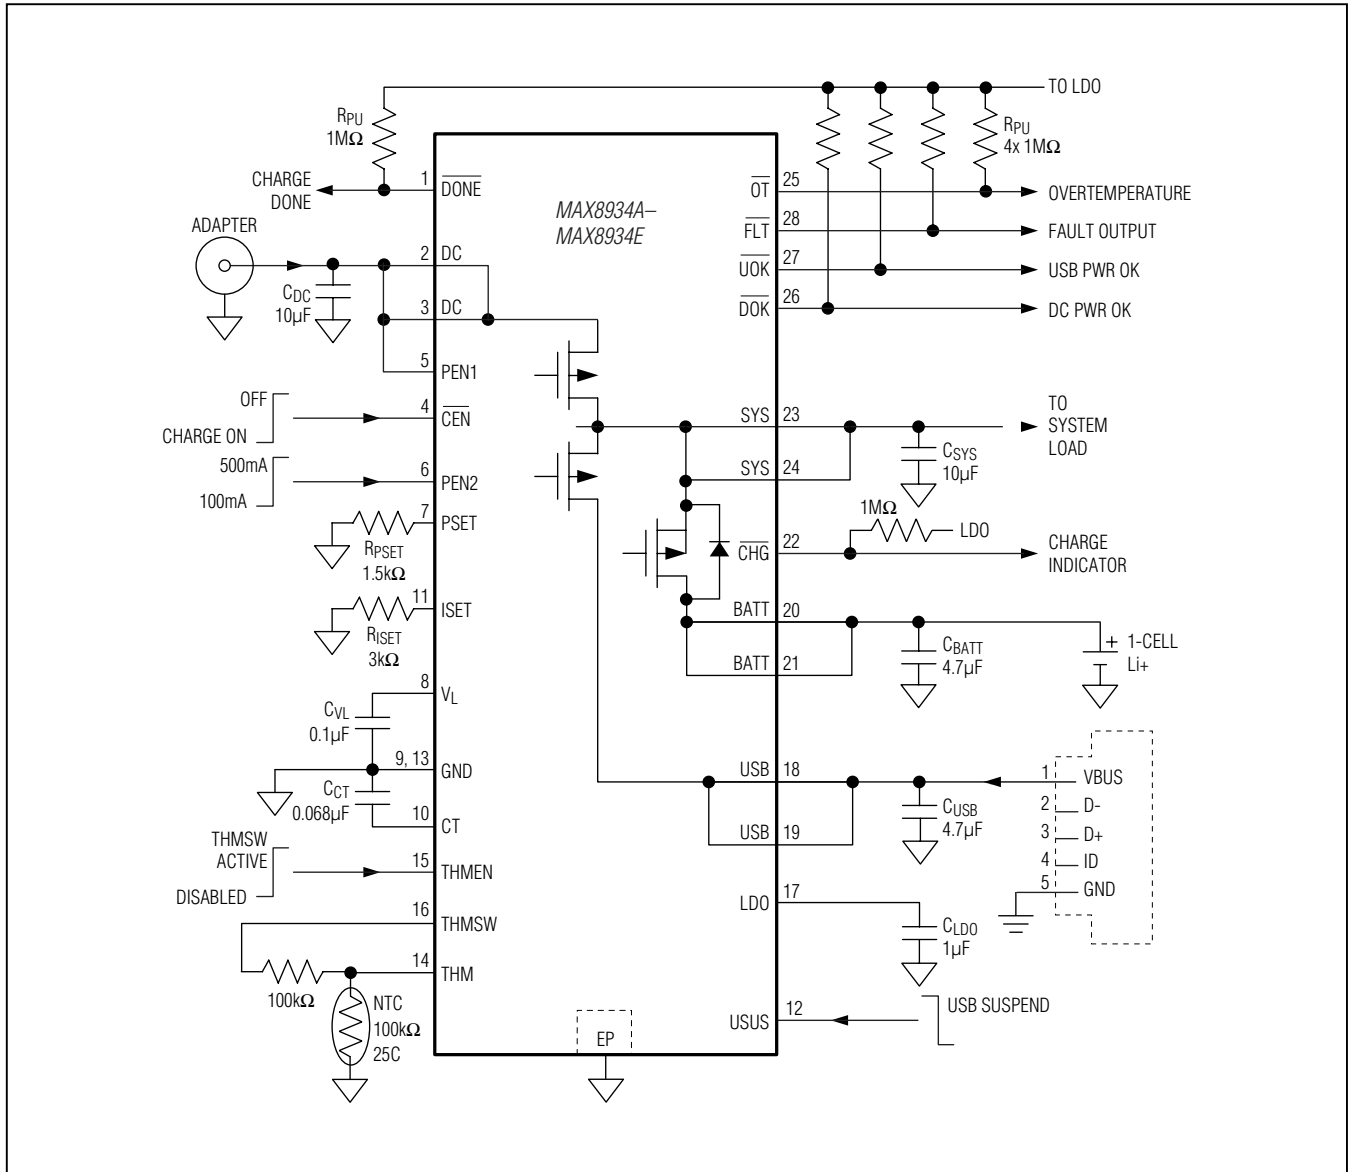

Figure 2. Typical Application Circuit Using Separate DC and USB Connector
(MAX8934A,  $T_A = +25^\circ\text{C}$ , circuit of Figure 2,  $V_{DC} = 6\text{V}$ ,  $V_{BATT} = 3.6\text{V}$ , thermistor Beta = 3964, unless otherwise noted. Negative battery current indicates charging.)
**Table 1. External Components List for Figures 2 and 3**
The MAX8934\_ is a dual-input linear charger with Smart Power Selector that safely charges a single Li+/Li-Poly cell in accordance with JEITA specifications\*. The MAX8934\_ integrates power MOSFETs and control circuitry to manage power flow in portable devices. See Figure 1. The charger has two power inputs, DC and USB. These can be separately connected to an AC adapter output and a USB port, or the DC input could be a single power input that connects to either an adapter or USB. Logic inputs, PEN1 and PEN2, select the correct current limits for two-input or single-input operation. Figure 2 is the typical application circuit using separate DC and USB connectors. Figure 3 is the typical application circuit using a 5-pin USB connector or another DC/USB common connector.